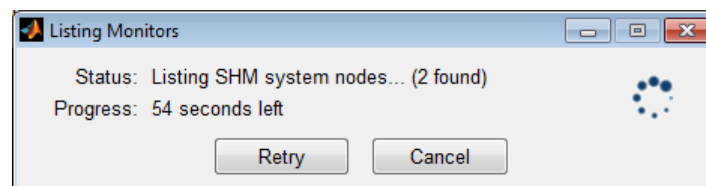

Figure 4.6: 'List Monitors' dialog box.
- ✓ **Step 4.11** Click Commands ▷ List Monitors... from the main menubar. This can also be achieved by clicking the keyboard combination **Ctrl** + **L** . A 'List Monitors' dialog box will appear, as shown in Figure 4.6, displaying the status of the number of SHM system nodes founds and the amount of time remaining to receive responses.